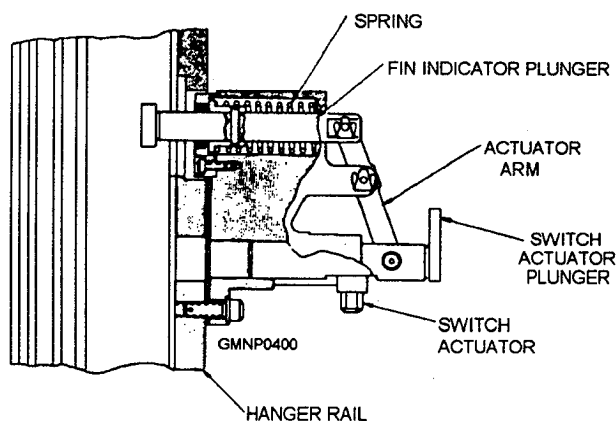

Figure 7-21.—ASW depth charge indicator.
**ASW DEPTH CHARGE INDICATOR.**— The ASW depth charge indicator (fig. 7-21) is a device that informs the control system whether an ASROC depth charge missile is or is not at the hoist station. Mounted to the back of each hanger rail, the device consists of two plungers and a proximity switch actuator.